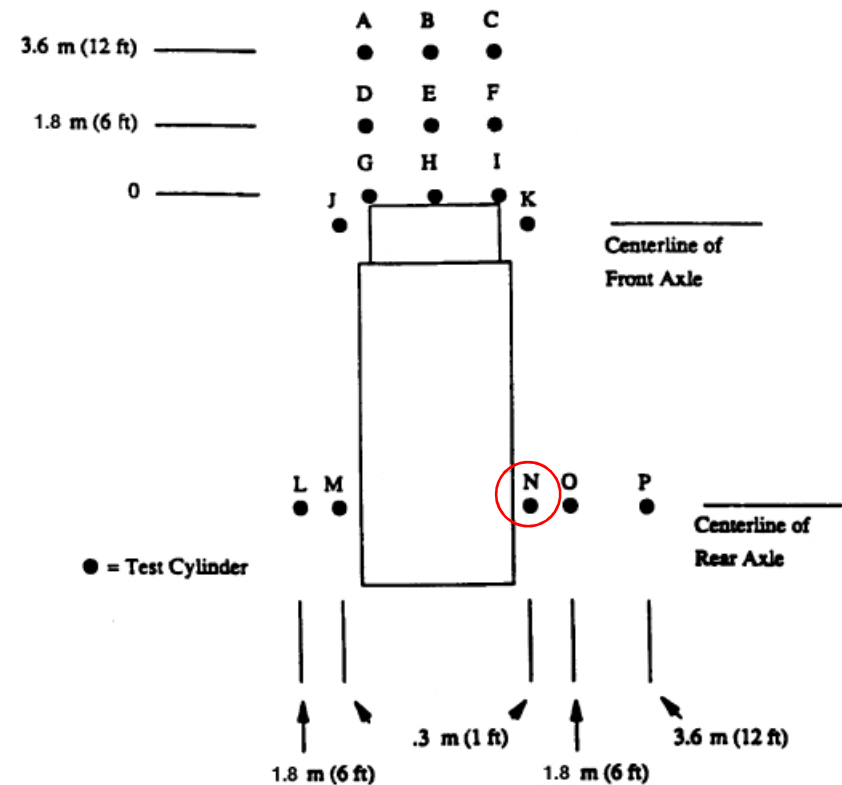

Figure 2.—Location of Test Cylinders for School Bus Field-of-View Test
- “(b) Includes one or more mirrors which together provide, at the driver’s eye location, a view of: (1) For the mirror system on the right side of the bus, the entire top surface of cylinder N in Figure 2, and that area of the ground which extends rearward from cylinder N to a point not less than 61 meters from the mirror surface...”